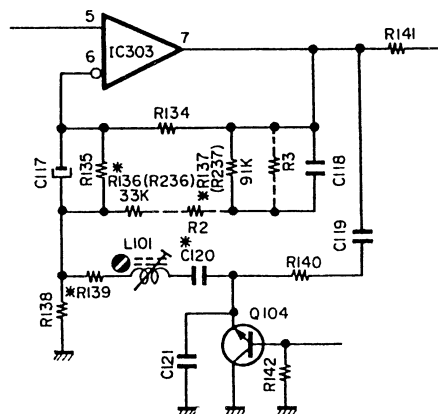

Fig. 6.3.10
Adjust so that the level differences between 400 Hz and 20 Hz (A) and between 400 Hz and the peak value (B) of the waveform become equal. Refer to Fig. 6.3.10.